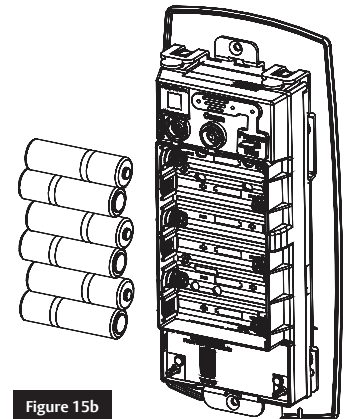

Figure 15b
1. Once controller is securely in place, place (6) "AA" alkaline batteries in the compartment, being careful to align polarity properly. (Figure 15b)